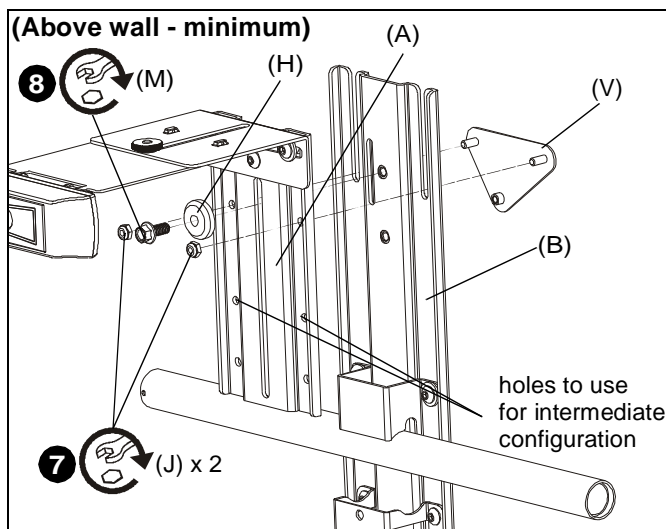

Figure 24
- (For **minimum/intermediate extension**) Use two #10-24 lock nuts (J) to secure upright bracket (A) to main bracket (B) and adapter plate (V). (See Figure 24)
- (For **minimum/intermediate extension**) Use 1/4-20 x 5/8" hex head flange bolt (M) and center washer (H) to secure upright bracket (A) to main bracket (B). (See Figure 24)